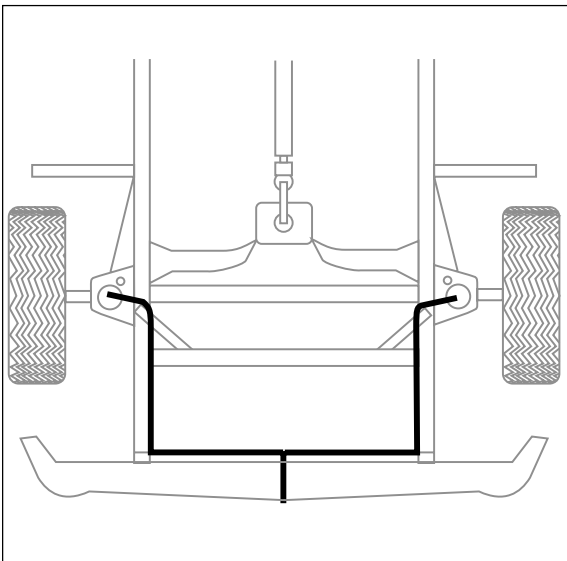

Figure 5
- j. Push the remaining air line over the last fitting on tee and route along frame to desired inflation valve location (Figure 5). Attach with plastic straps or wire.